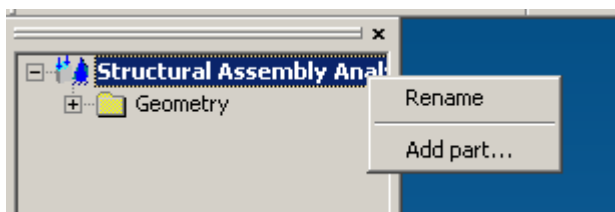

Fig. 4.3.2 Add a part in the Tree toolbar
- 2) Select in the *Tree* toolbar the structural assembly analysis, make a right-click and select a corresponding command in the context menu (Fig. 4.3.2).